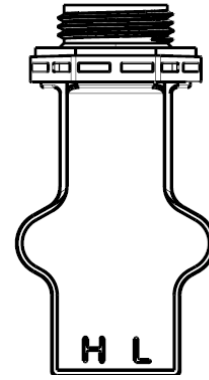

Fig. 10. Sensing Component
- Observe, below the outer casing of the sensing component on the super actuator (as shown in the right figure), the hose connected at the place marked with "H" is the high-pressure hose and the hose connected at the place marked with "L" is the low-pressure hose, see Fig. 10;